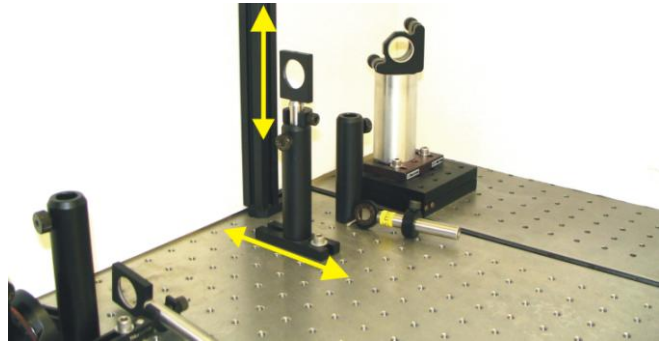

FIGURE 10
8. Leave the beam profiler behind the second iris for the next step and put a beam block in front of iris 2. Remove iris 1 from the post holder and return the lens L1 back to its post holder (FIGURE 10).